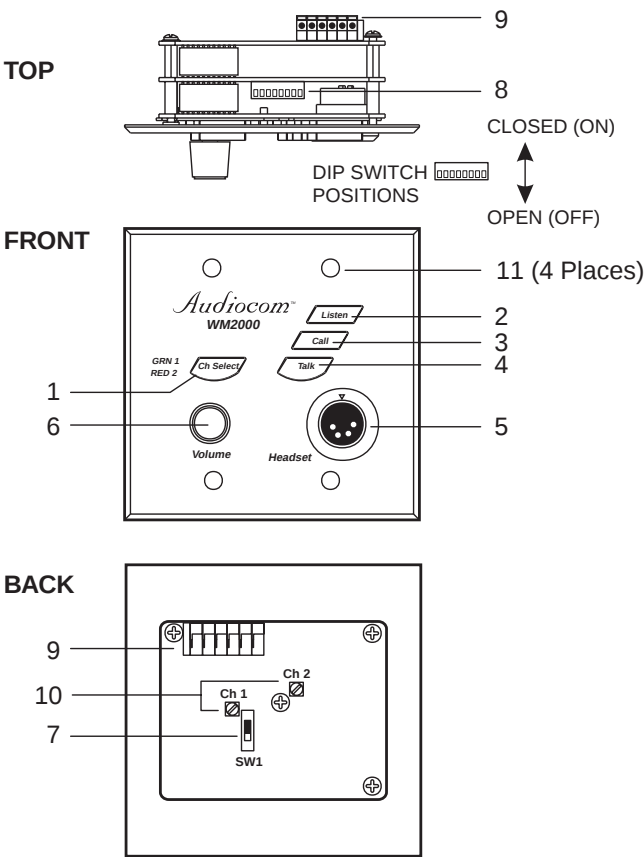

Figure 1. Reference view, WM2000 shown (See numbered features list)
Before making connections, read the configuration switch notes that follow and make sure that all switches are properly set for your intended usage. Table 1 lists the switch descriptions and factory default settings. Figure 1 shows the locations of the switches.
4. Using a small flat-bladed screwdriver, adjust the channel 1 sidetone trimmer (Figure 1) to minimize your voice level in the headphones.